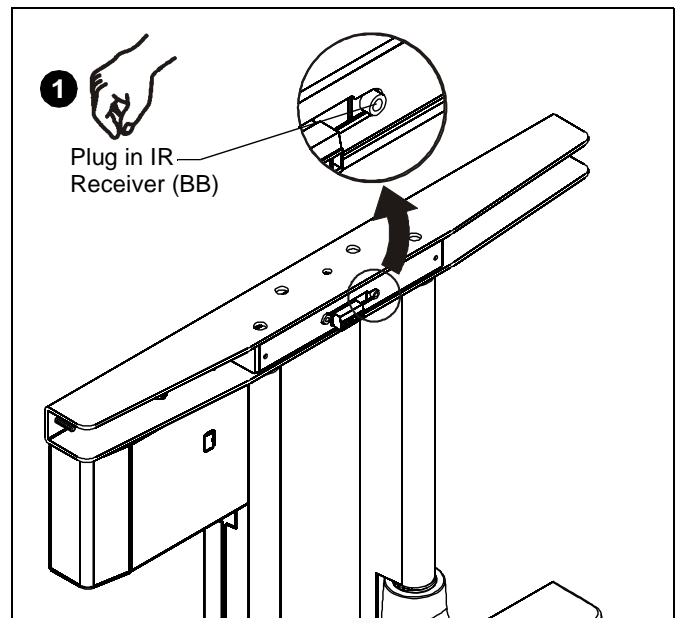

Figure 23
1. Plug IR receiver (BB) into PXR. (See Figure 3) and (See Figure 23)